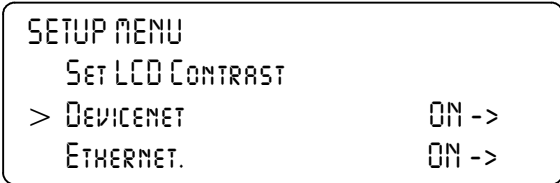

FIG. 39: SETUP MENU/SELECTING DEVICENET
- Step 4. Press the up or down arrows until the cursor is in front of “Devicenet”. (See Fig. 39)